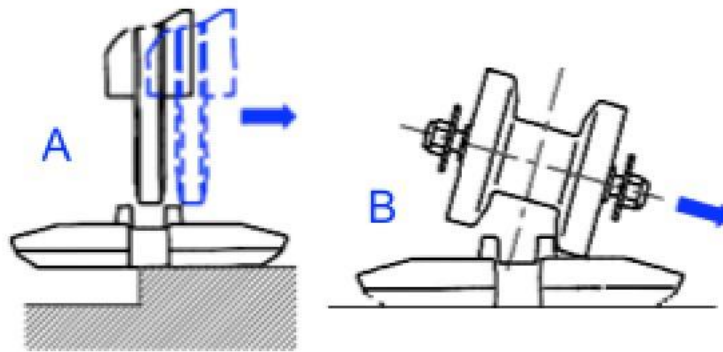

Fig.9 Possible seat movement in reverse movement of the crawler
- When the machine travels in reverse showed in figure 9(A), the crawler track may become out of its seat
- When you steer in the conditions shown in figure 9(B), the crawler track may come out of its seat